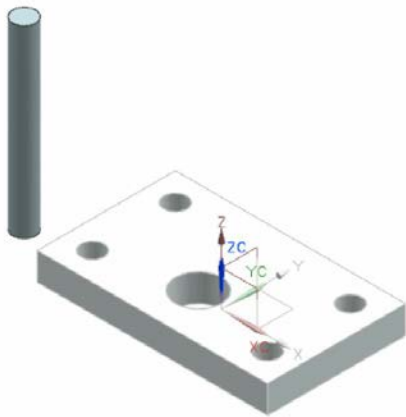

Figure 9-76 Guide Pillar before creating the chamfer feature
- Create the Guide Pillar, refer to Figures 9-76 and 9-77.
7. Extrude the sketch upto 200 mm in the upward direction, refer to Figure 9-76.